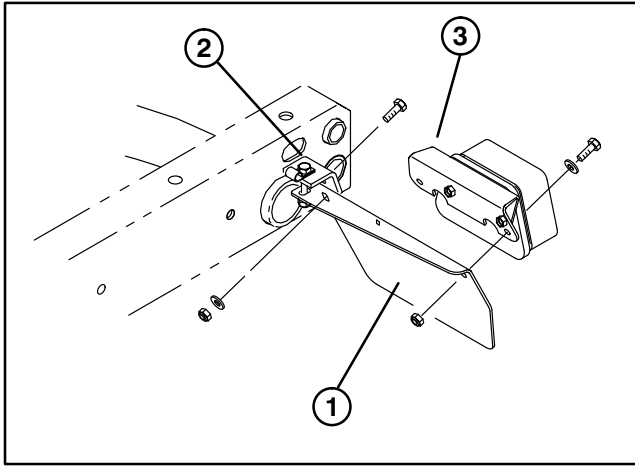

Figure 1
3. Secure rear of each tail light plate to rear of frame brackets with a 5/16-18 x 1" lg. capscrew, .344" I.D. flatwasher and nut, as shown in figure 1.
4. On left side, remove (2) capscrews, washers and nuts securing tail light mounting bracket to tail light plate.